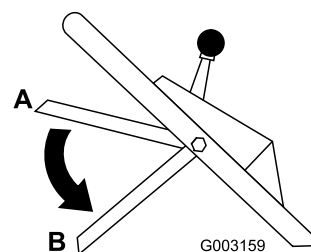

Figure 19
11. Release the control bar; refer to position B in Figure 19. You should hear a “bang.” The blade should stop in 3 seconds.
2. Move the control bar down to its lowest position (Position B in Figure 19).